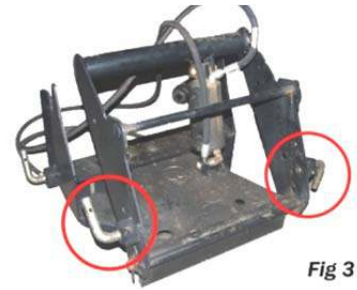

Fig 3
5. On the Quik-Tatch™ Hitch, set the two mounting pin fasteners (the “L” shaped spring levers) to the “open” position. (See Fig 3)